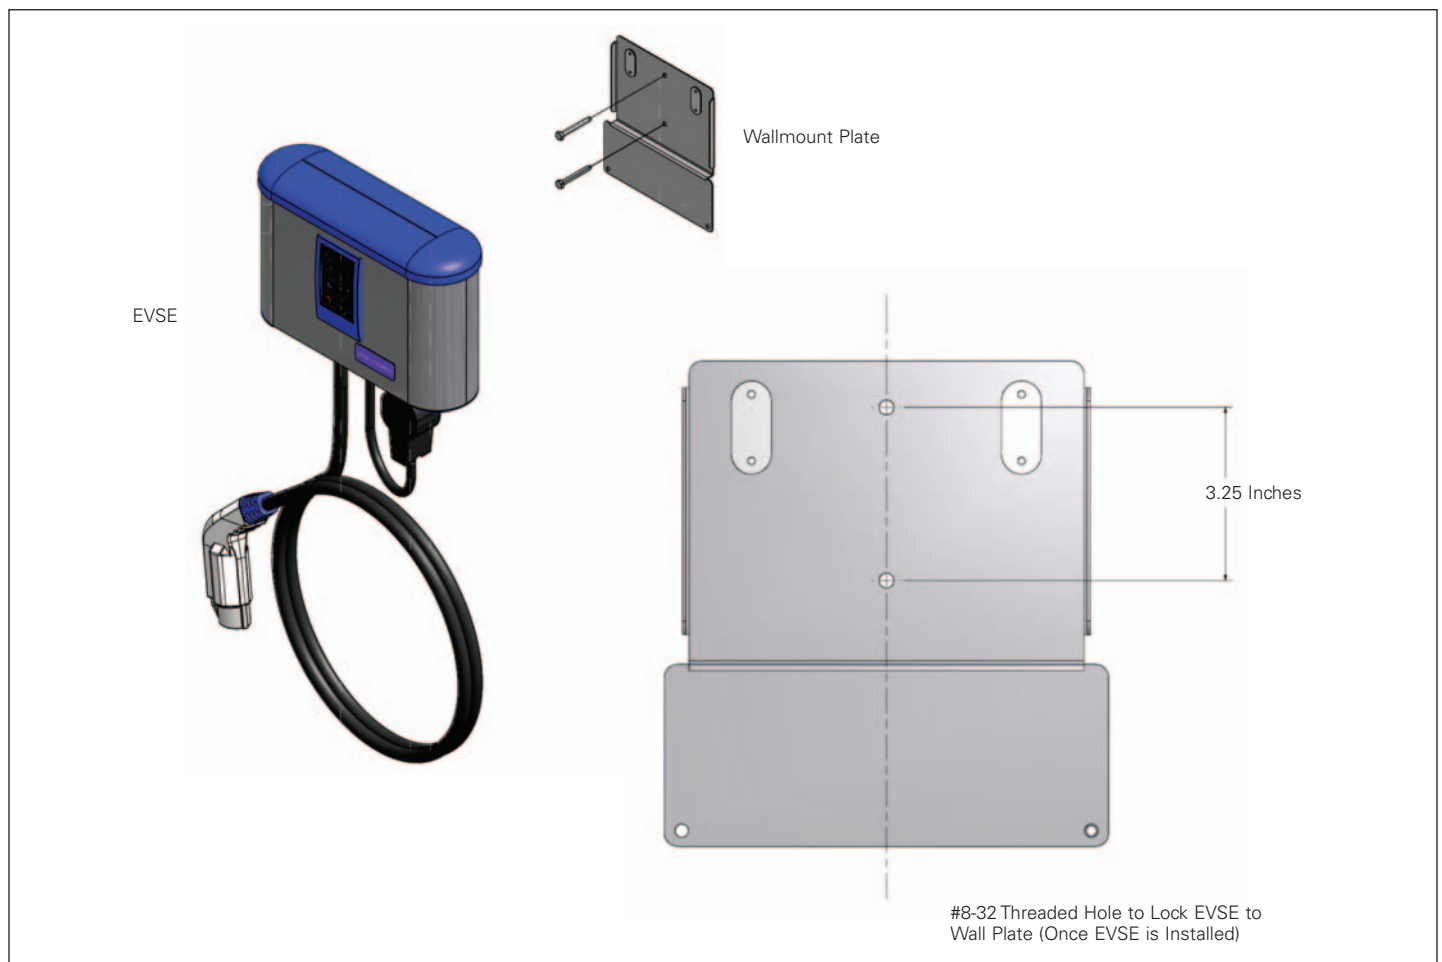

Figure 11. Unit and Mounting Plate
Step 3: Attach the mounting plate to the wall as shown in **Figure 11 on page 7**. If installing on a wood stud, use 1/4 x 3.00-inch long lag screws and washers, and ensure that the plate is mounted on the centerline of the stud. These should be galvanized or stainless steel for weather protection if mounting outdoors. If mounting onto a concrete, block, or brick wall, use an appropriate anchor for the type of wall on which you are installing the unit. Again, these should be appropriate for weather conditions if mounting outside.